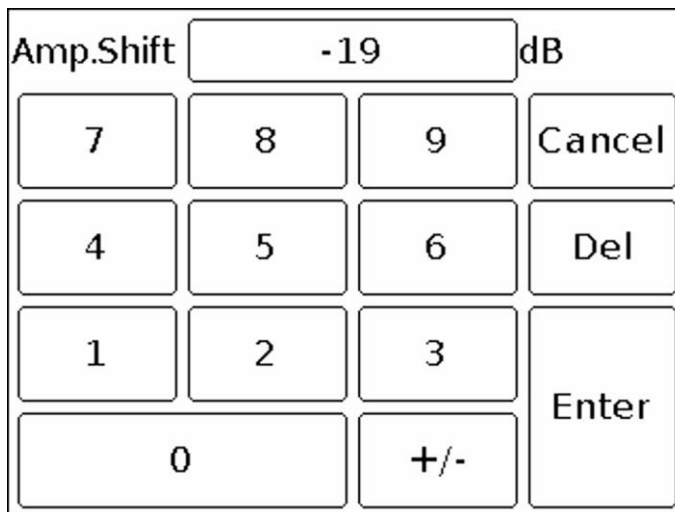

Figure 25 – Entering the value of the scale shift in amplitude
7.9.5. When using external attenuators or amplifiers, to correctly indicate the amplitude of the input signal, enter the value of the scale shift **Amp. shift** to dB as shown in Figure 25.
Setting the scale value of the input signal amplitude **Amp. shift**, produces both positive and negative numeric values in dB, in the submenu that opens, as shown in figure 25. Enter the numerical value of the attenuation and press **Enter**. To delete erroneous or previously entered values, press **Del**. To refuse to enter a value, click **Cancel**.